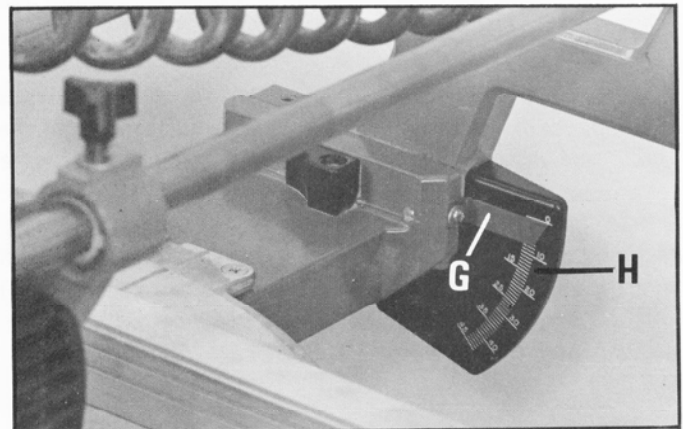

Fig. 31
5. Adjust pointer (G) Fig. 31, to the 0 degree mark on the scale (H).